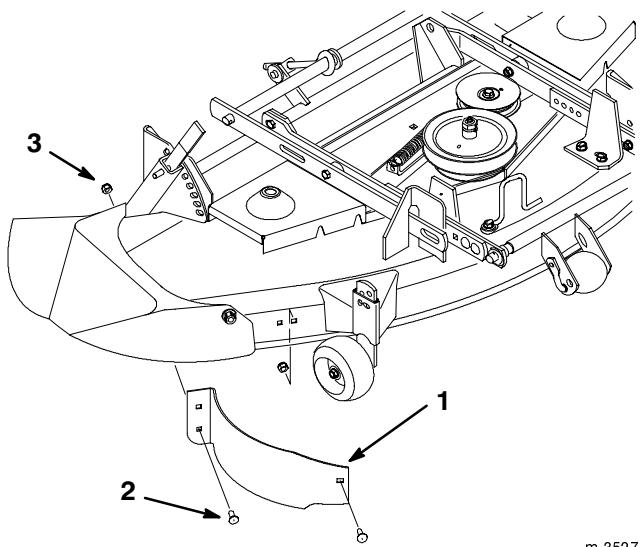

Figure 32
2. Remove the locknut and bolt from the mower (Fig. 32). Slide the baffle into the discharge opening and into the mower so the pin goes through the baffle.
3. Secure with previously removed 5/16-5/8" (16 mm) bolts and 5/16" locknuts (Fig. 32).